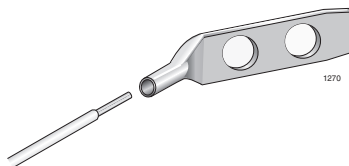

Figure 3. Connecting the Wire to the Ground Lug
1. Use a crimping tool to affix one end of the 12 AWG bundled or 14 AWG solid ground wire to the provided ground lug, as illustrated in Figure 3.